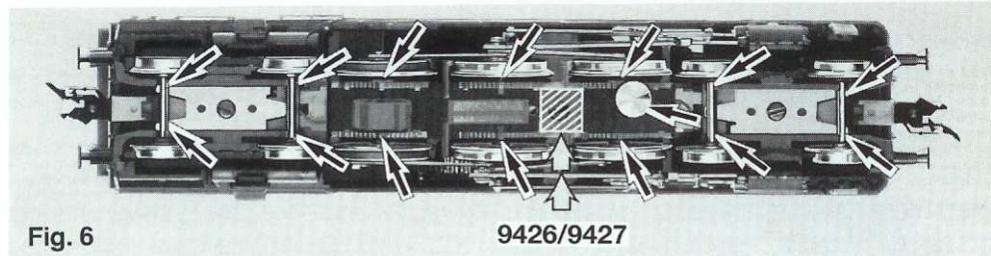

Fig. 6
Zwei Räder sind zusätzlich mit **Haftreifen** ausgerüstet (Fig. 6). **Ersatzhaftreifen: 54 4009**
An den markierten Stellen kann der **Schaltmagnet 9426/9427** eingebaut werden (Fig. 6).
Using one of the adhesive strips included with the TWIN DECODER, glue the decoder with the largest piece downwards onto the loco. Cut the second piece of adhesive strip to suit the length of the side of the connector. Glue the connector to the decoder using the adhesive strip. Please make sure here that the decoder and connector are electrically isolated from each other by the adhesive strip. The remainder of the adhesive strip can be used on the bottom of the condenser fitted to the decoder with green wires (fig. 6). Finally fix the condenser onto the loco. Replace the loco body and secure with the screw a. The loco can now be run using the address "3".
Two wheels are fitted with **traction tyres** (fig. 6). **Spare traction tyres: 54 4009.**
The indicated points can be used for locating the **switching magnet 9426/9427** (fig. 6).
Deux roues sont équipées de bandages (fig. 6). **Bandages de rechange: 54 4009.**
L'aimant permanent 9426/9427 peut être monté aux endroits indiqués (fig. 6).
Twee wiel en anti-slipbandjes voorzien (fig. 6). **Reserve-antislipbandjes: 544009.**
Op de gemerkte plaats kan de schakelmagneet 9426/9427 gemonteerd worden (fig. 6).
To hjul er udstyret med **friktningsringe 54 4009** (Fig. 6).
**Kontakt-magnet 9426/9427** kann monteres på de viste sleder (Fig. 6).
Due ruote sono provviste di ruote di aderenza. (fig. 6). **Anelli attrito di ricambio: 54 4009.**
Sul posto segnato può essere installato il **dispositivo di comando 9426/9427** (fig. 6).